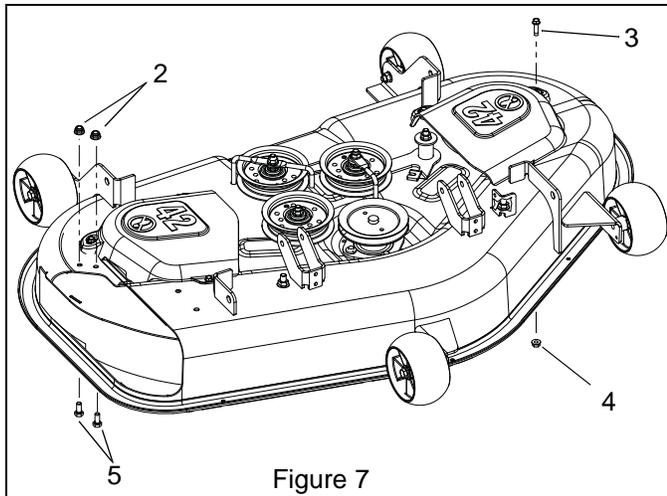

Figure 7
5. From the top of the deck install 1/4 x 1" hex washer head tapping screw (item 3) through outer hole in left side belt cover. From under the deck secure with 1/4" locking top flange nut (item 4). See Figure 7.
6. From the underside of the deck install two 5/16 x 3/4" hex bolts (item 5) and secure with two 5/16" locking top flange nuts (item 2). See Figure 7.